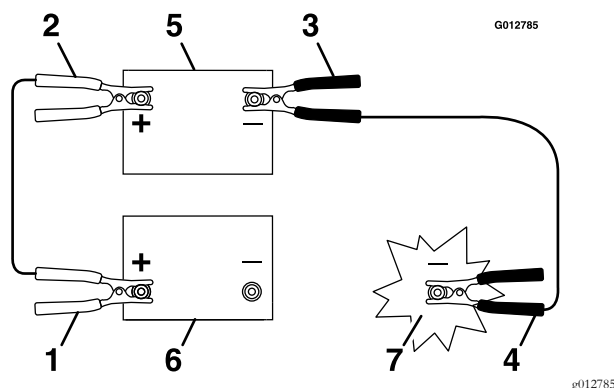

Figure 30
3. Connect the positive (+) cable to the positive (+) terminal of the discharged battery that is wired to the starter or solenoid as shown in Figure 30.